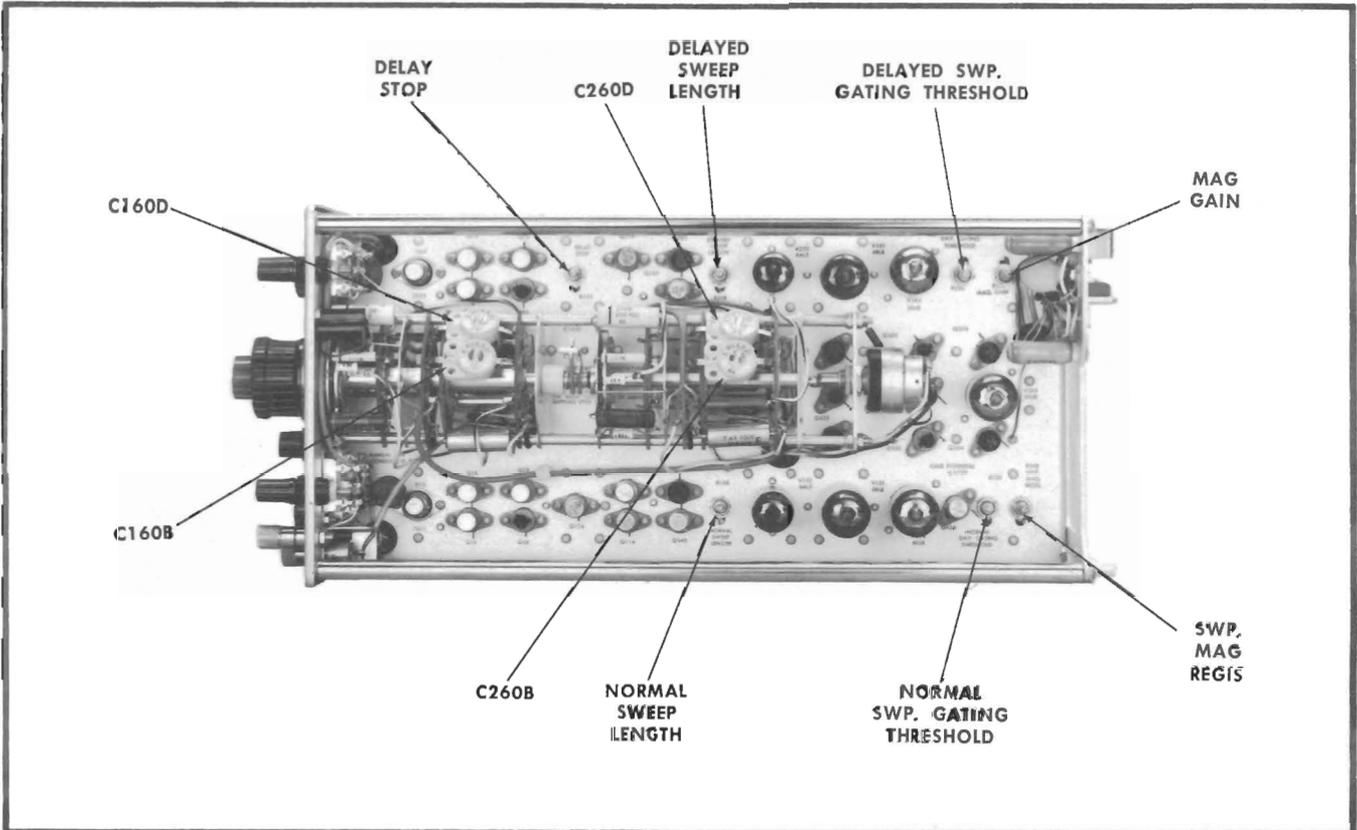

Fig. 5-4. Type 3B1S, right side view.
- a. Use the same setup as in step 4, and adjust NORMAL SWEEP LENGTH R168 (see Fig. 5-4), for 10.5 major graticule divisions of horizontal deflection.
- c. Adjust DELAYED SWEEP LENGTH R268 (see Fig. 5-4), for 10.5 major graticule divisions of horizontal deflection.
- d. Pull the 10 \times MAG switch out and adjust MAG GAIN R335 (see Fig. 5-4) for one large time mark every 10 major graticule divisions and 1 small time mark every 1 major graticule division.
- c. Push the 10 \times MAG switch in and adjust SWP MAG REGIS R368 (see Fig. 5-4) so the first time mark again falls on the graticule centerline.
- c. Adjust DELAY STOP R435 (see Fig. 5-4), so the intensified part of the display starts at the 2nd 100 μ sec marker to the right of the 11th 1 msec marker.
- b. At 10 μ SEC, adjust C260D, and at 1 μ SEC, adjust C260B (Fig. 5-4).